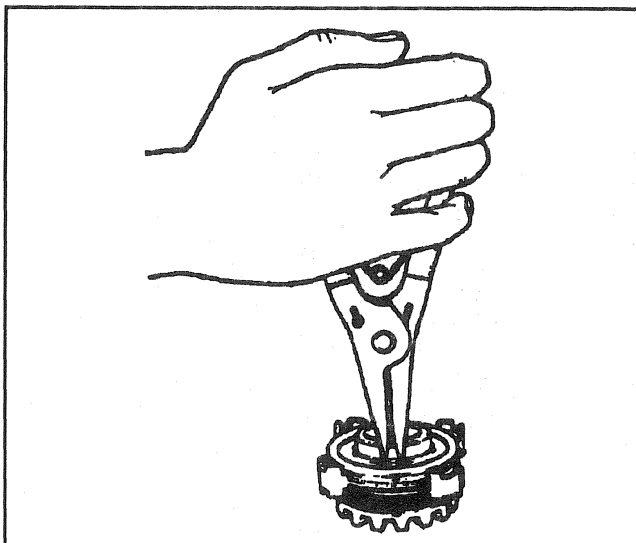

Figure 3—Removing the Retaining Ring
1. Retaining ring (Figure 3).
4. Retaining ring (Figure 3).